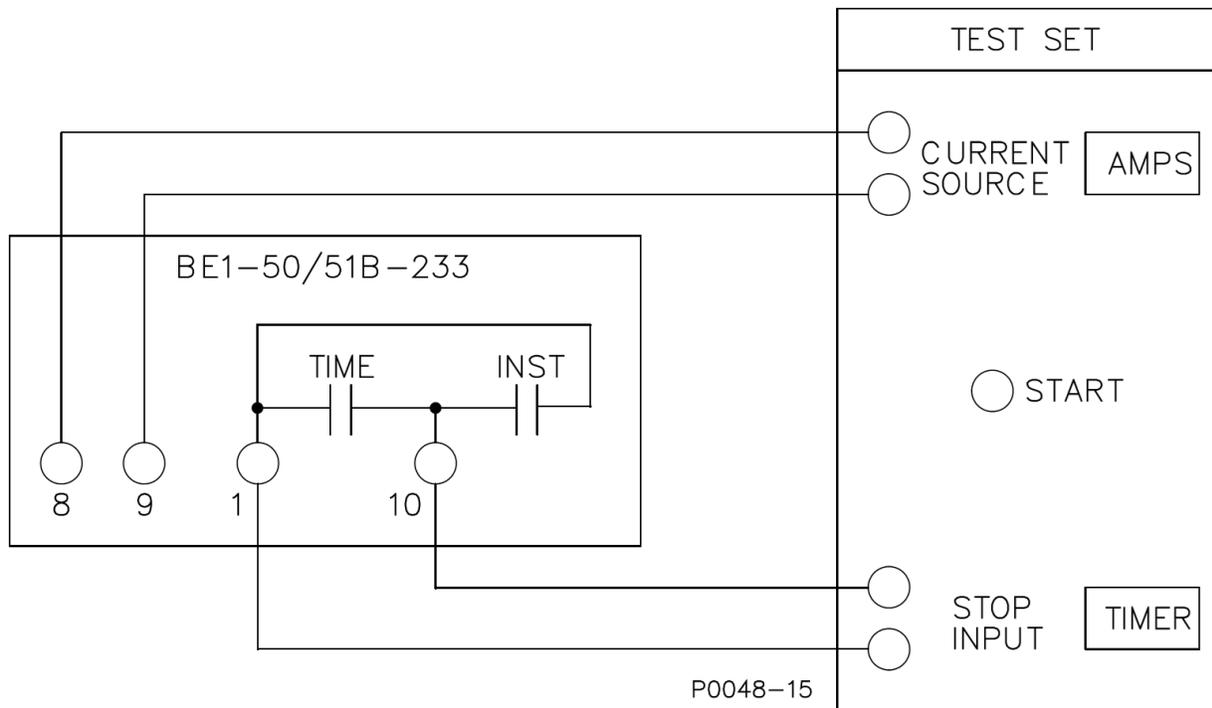

Figure 5-1. Pickup and Timing Test Setup
The following procedures verify operation of relays BE1-50/51B-233. The test setup of Figures 5-1 and 5-2 are intended primarily as an illustration of the principles involved. Other test setups known to be capable of testing with the stated and implied tolerances (including equipment specifically designed for testing relays) may be used.
- Connect test setup as shown in Figure 5-1.
Single phase relays such as the BE1-50/51B-233 are normally used in groups of four (three phase and ground) on the protected circuit. This relay scheme allows each unit to be withdrawn one at a time for testing purposes without losing protection. Only three are required at any one time to sense all types of faults on a grounded wye system. Refer to Figures 5-1 and 5-2 for recommended test setups.